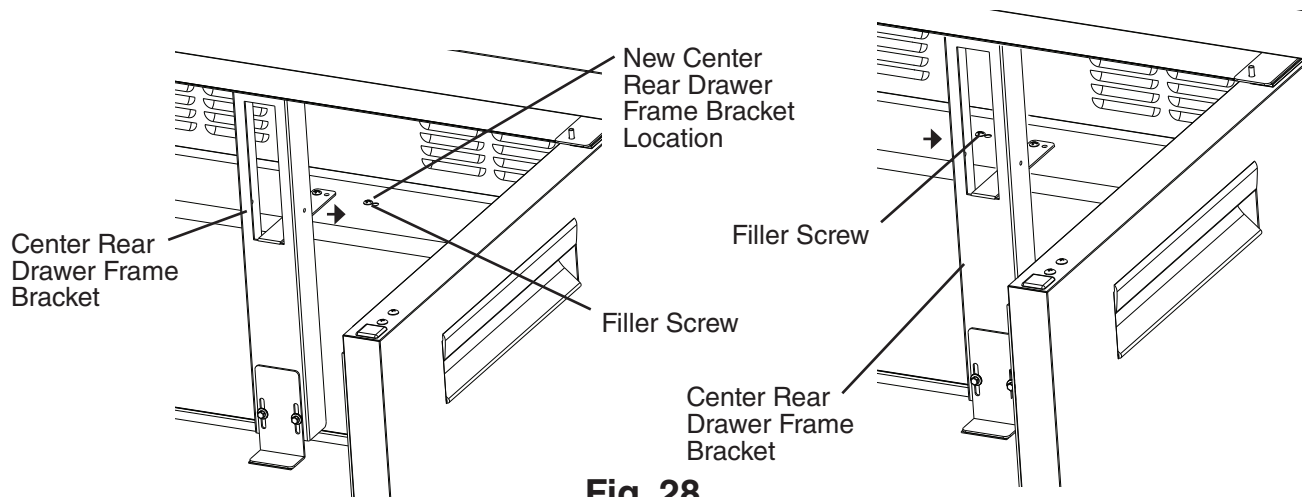

Fig. 28
- 6) Remove the center rear drawer frame bracket and the filler screw. See Fig. 28. Slide the center rear drawer frame bracket over to the new location and secure it. Place the filler screw in the former center rear drawer frame bracket hole.